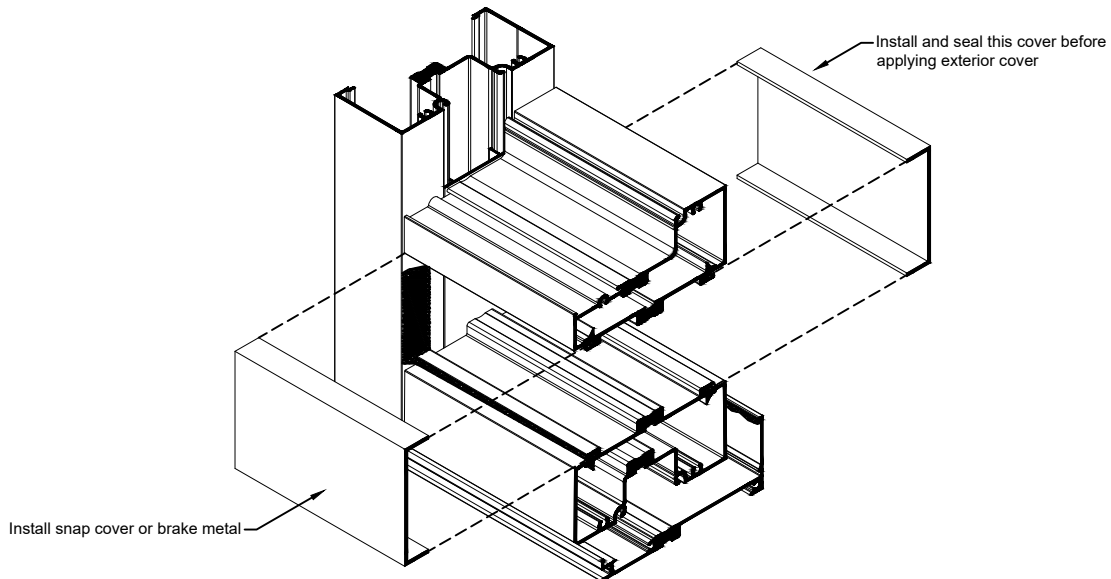

Fig.36.1
- I. Attach a snap cover or brake metal to the inside surface of the sidelite base. **SEE Fig. 36.1.**